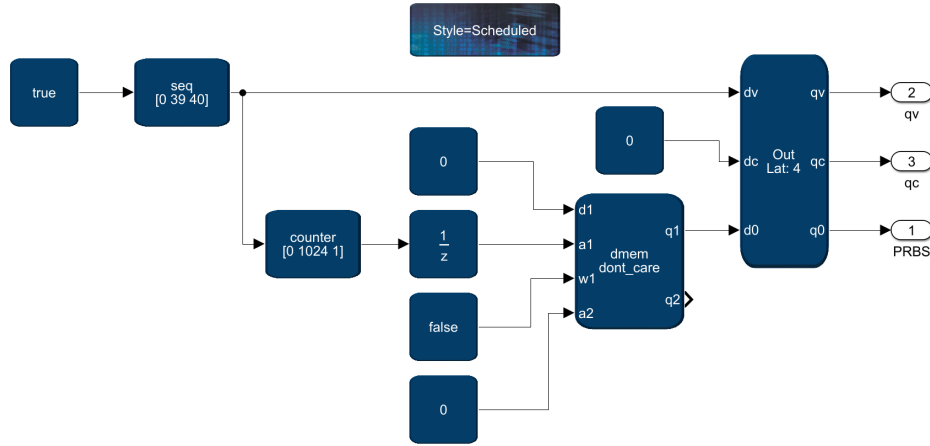

Figure 8: View of the PRBSGeneration subsystem.
- Finally you need to add a *SynthesisInfo* block from the **Primitive Configuration** library to your *DataGeneration* subsystem to make it synthesizable. The final subsystem should look similar to Fig. 8.